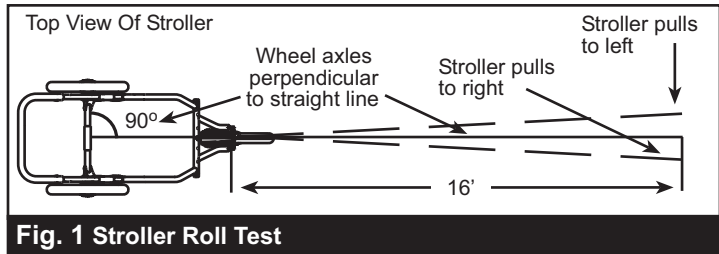

Fig. 1 Stroller Roll Test
Fig. 1 illustrates the roll test process.
- d. If the stroller consistently pulls to the left or right when pushed straight, proceed with the steps below until tracking is satisfactory. Fig 1. illustrates how to interpret the results.